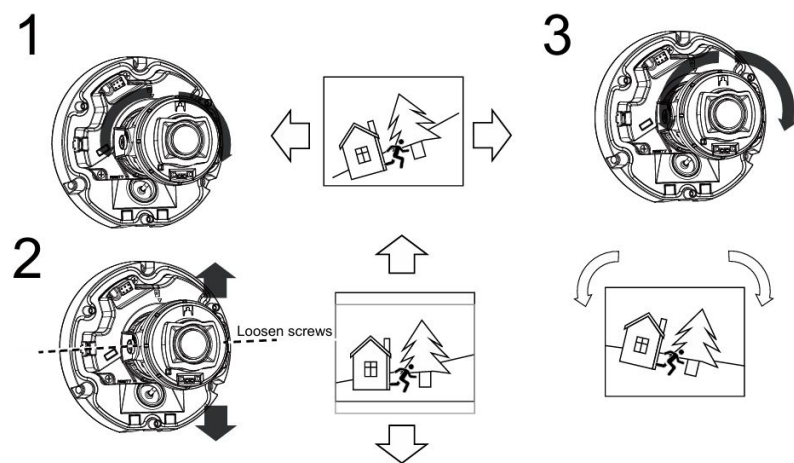

Figure 1-6
**Step 6** Rotate the camera as needed. Loosen the adjustment screws on the side to adjust angle up and down. Tighten down the adjustment screws when finished. See Figure 1-6.